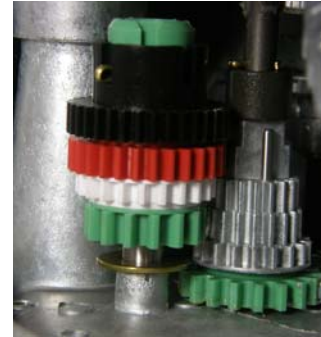

Figure 4
- b. Assemble the gears onto the green gear with all the hubs facing up, in the following order: white, red, black. When the gear set is assembled, check that the pinhole in the green gear is visible when looking through the slot in the black gear (Figure 4).